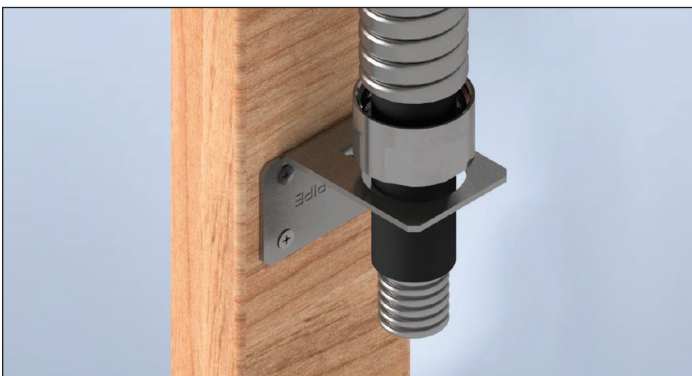

Figure: 1-5
5. Remove the Floppy Conduit from the Nut. Place the Floppy Conduit and Floppy Conduit Adapter over the final cut tubing and feed the tubing through the Key Valve Bracket (Figure 1-5).